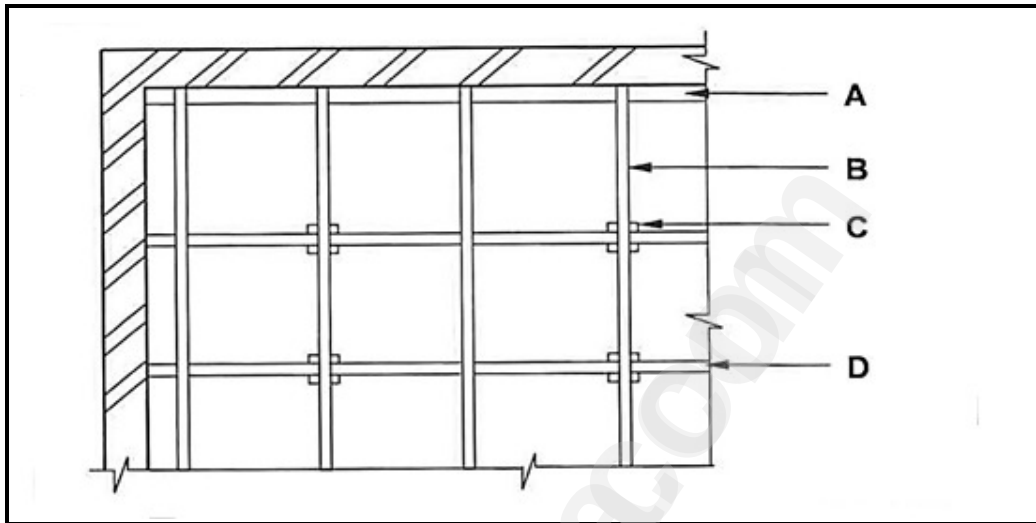

FIGURE 6.2
- D 299 mm. (1)
- 6.2 FIGURE 6.2 shows part of the floor plan of a suspended timber floor. Study the figure and answer the questions that follow.